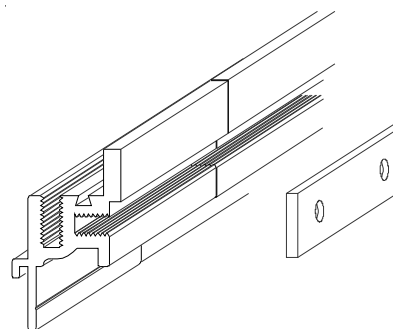

Figure 10
**STEP 4.** Select a splice bar and place it into position on the frame so that the splice bar traverses the splice and so that the splice is centered behind the splice bar (see Figure 10).